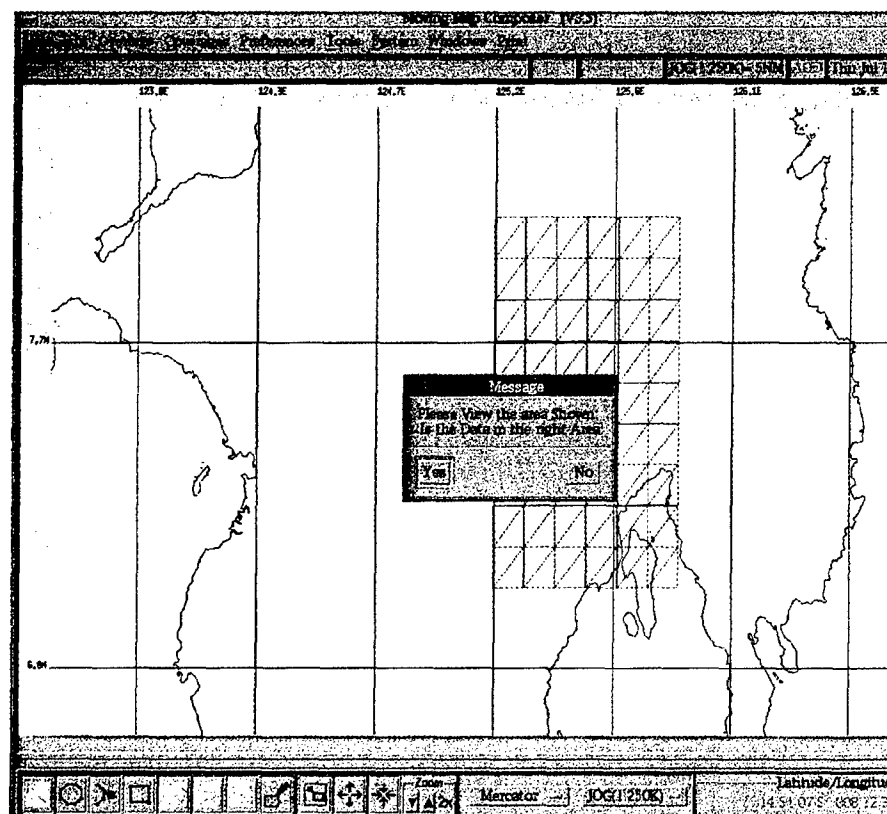
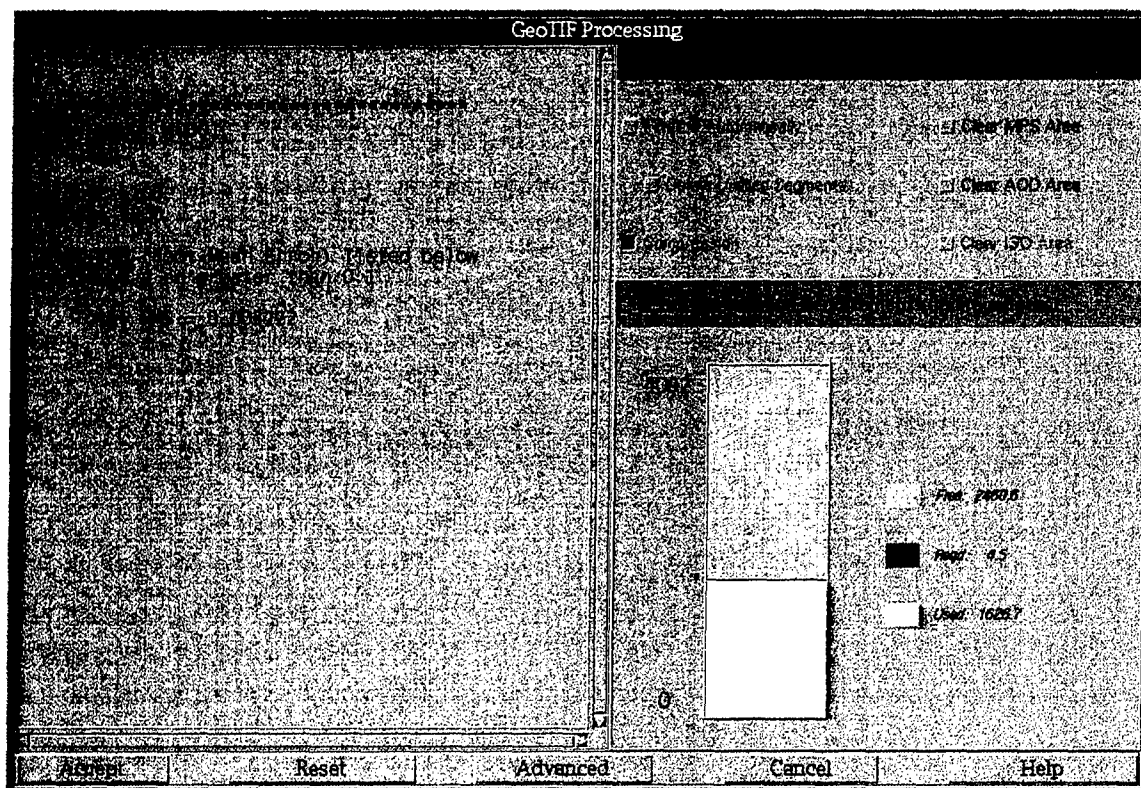

Fig. 58 — Composition of newly scanned chart data and verification that it is correct
Fig. 67 — GeoTIF Processing window
When satisfied with the list of control points, click on *Accept Control Points*. MMC now will transform the control points from the scanned chart's source datum and ellipsoid to the selected datum. After a few seconds, MMC will display a template representation of the scan zoomed into the scanned area, with a composition of the scanned image overlaid by a latitude and longitude reference grid. MMC will also display a message asking if the scanned coverage is in the right area (Fig. 58); i.e., is it in the right location and of the right size and shape? The user may have to move this message to the side if it obscures the template.
3.3.6.6.2 Show GeoTIF Coverage — Select this option to view areas of available coverages. Then, click on the appropriate chart scale. After a few seconds, MMC will display a template representation of the area of coverage, with a composition of the GeoTIF data overlaid by a latitude and longitude reference grid. MMC will also display a message asking if the GeoTIF coverage is in the right area (Fig. 58); i.e., is it in the right location and of the right size and shape? The user may have to move this message to the side if it obscures the template.
After the source has been specified, click on *Start Processing* to begin processing and invoke the **GeoTIF Processing Window** (Fig. 67). By accepting the default settings, the GeoTIF data will be downsampled and compressed into CAC. To view the downsampled data prior to compression, uncheck the boxes that read *Finalize Automatically* and *Optimization* (see below). Since data downsampling may take a while to complete, a **Percent Completion Box** is used to show the task progression. Wait until processing has finished before trying to do anything else in MMC!
MMC will display a template representation of the data zoomed into the area of coverage, with an overlay of a latitude and longitude reference grid. MMC will also display a message asking if the coverage area is in the right area (Fig. 58); i.e., is it in the right location and of the right size and shape? The user may have to move this message to the side if it obscures the template. If the template does not look right, click *No* to the message and determine the cause of the discrepancy. Otherwise, click *Yes* and MMC will invoke the **GeoTIF Processing Window** (Fig. 67). Accept the default setting to finalizing the data. MMC will display a meter showing the percent. **Wait** until processing has finished before trying to do anything else in MMC!